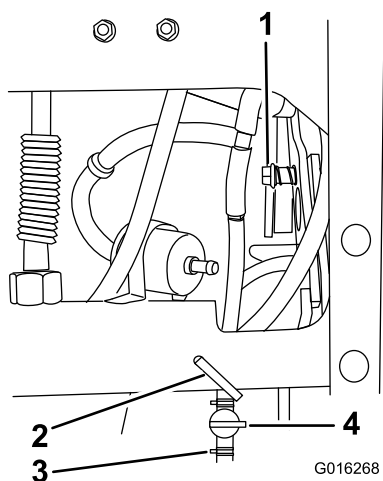

Figure 25
- 4. Install the hose and clamp to the fuel shut off valve and secure the hose to the machine with a plastic cable tie (Figure 25).
- 5. Install the shoulder bolt and compression spring at the deck lift handle (Figure 25).